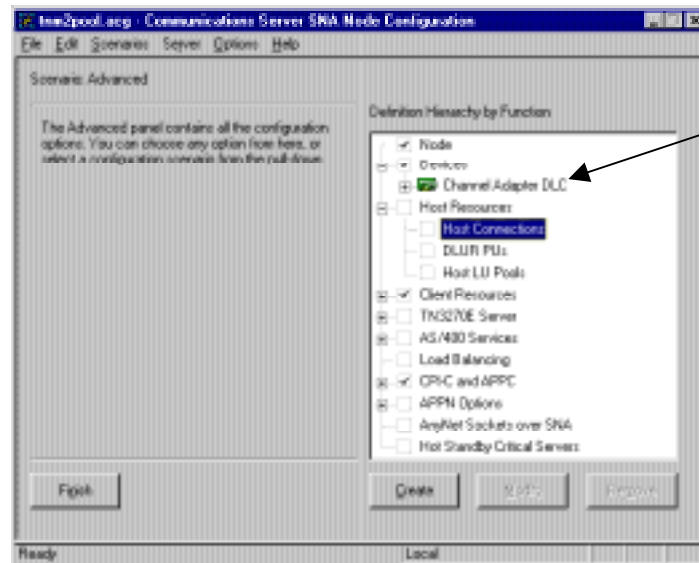

Figure 16-10. ESCON Adapter DLC
2. Verify that the ESCON adapter is in the list of devices in the configuration (Figure 16-10).